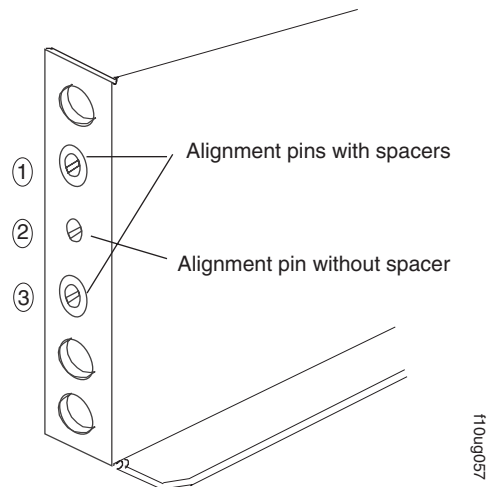

Figure 11. Alignment pins with and without spacers
**Attention:** Both support rails are shipped with three screws and spacers, called *alignment pins*, already installed at the front of each rail. They have been inserted in the front of each support rail as guides to indicate where *not* to use M6 screws when you attach the front of the support rail to the rack cabinet. See Figure 11.